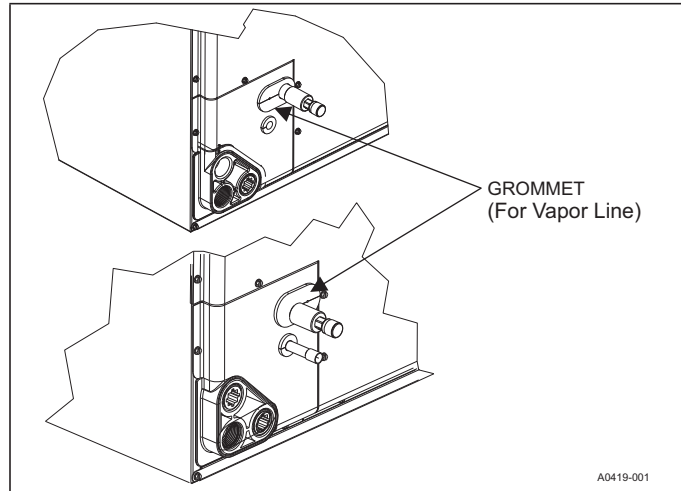

FIGURE 21: Vapor Line Grommet
2. Remove grommets where tubes exit the cabinet to prevent burning them during brazing. In some units, the vapor line grommet may be shipped as a loose part with the unit. Refer to Figure 21.
13. Re-attach the grommets to the lines carefully to prevent air leakage. In some units, the vapor line grommet may be shipped as a loose part with the unit. Refer to Figure 21.